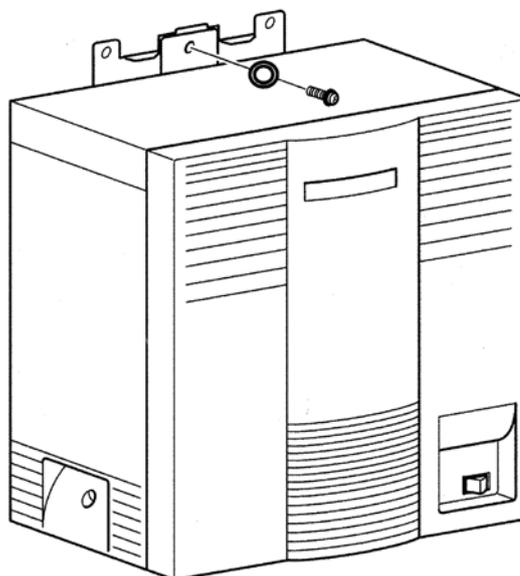

Figure 4-15 Securing the Basic KSU to the Wall
4. Secure the KSU to the wall by placing a screw and washer (locally provided) into the hole in the centre of the wall mount bracket as shown in *Figure 4-15 Securing the Basic KSU to the Wall*.
3. Secure the KSU to the wall by placing a screw (locally provided) into the hole in the centre of the wall mount bracket as shown in *Figure 4-15 Securing the Basic KSU to the Wall*.